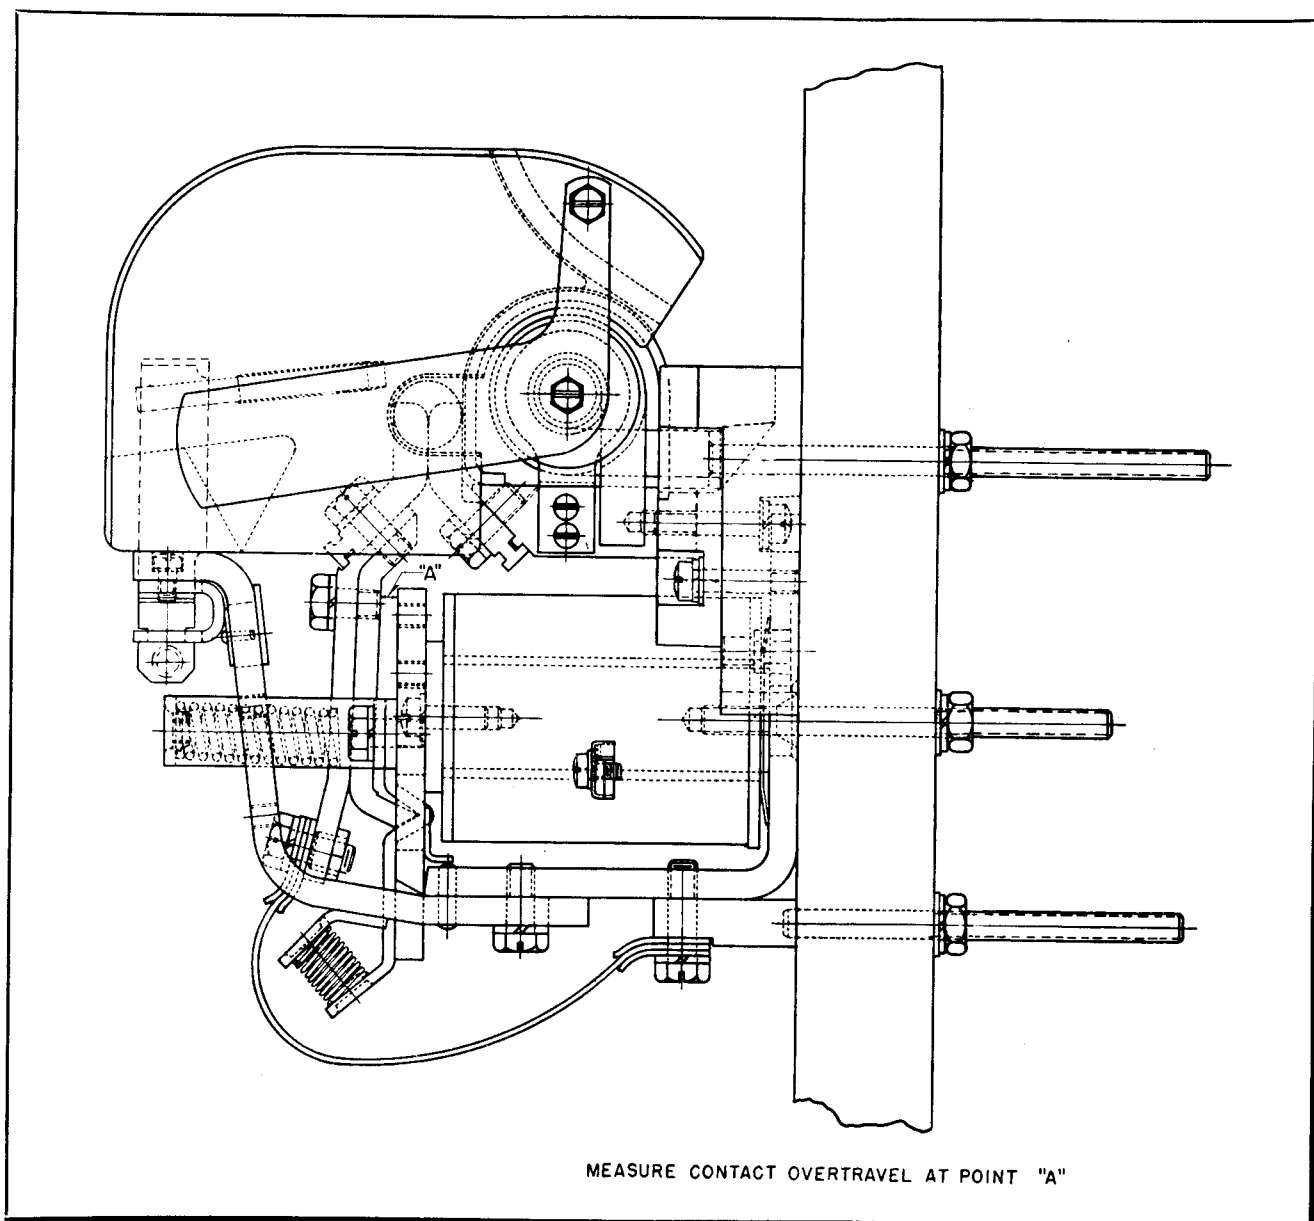

FIG. 3. Sectional View of Type M-410 Contactor with Armature Closed
closed either electrically or mechanically the gap between the contact support bracket and the top of the armature plate, Dimension "A", Fig. 3 should be as shown in Table No. 4. Change contacts when this dimension is reduced to 1/32 inch.
* Dimension "A" of Fig. 3.